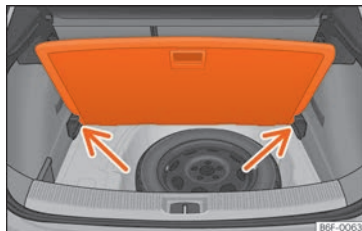

Fig. 111 Variable luggage compartment floor:
- Rest the floor on its housings »» Fig. 111 (arrows).